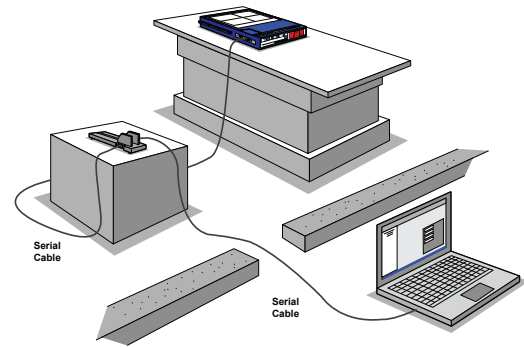

Figure 5: Typical QA BeamChecker Plus Real-Time Operation setup
4. Connect the QA BeamChecker Plus to the PC as shown in Figure 5 and exit the vault.